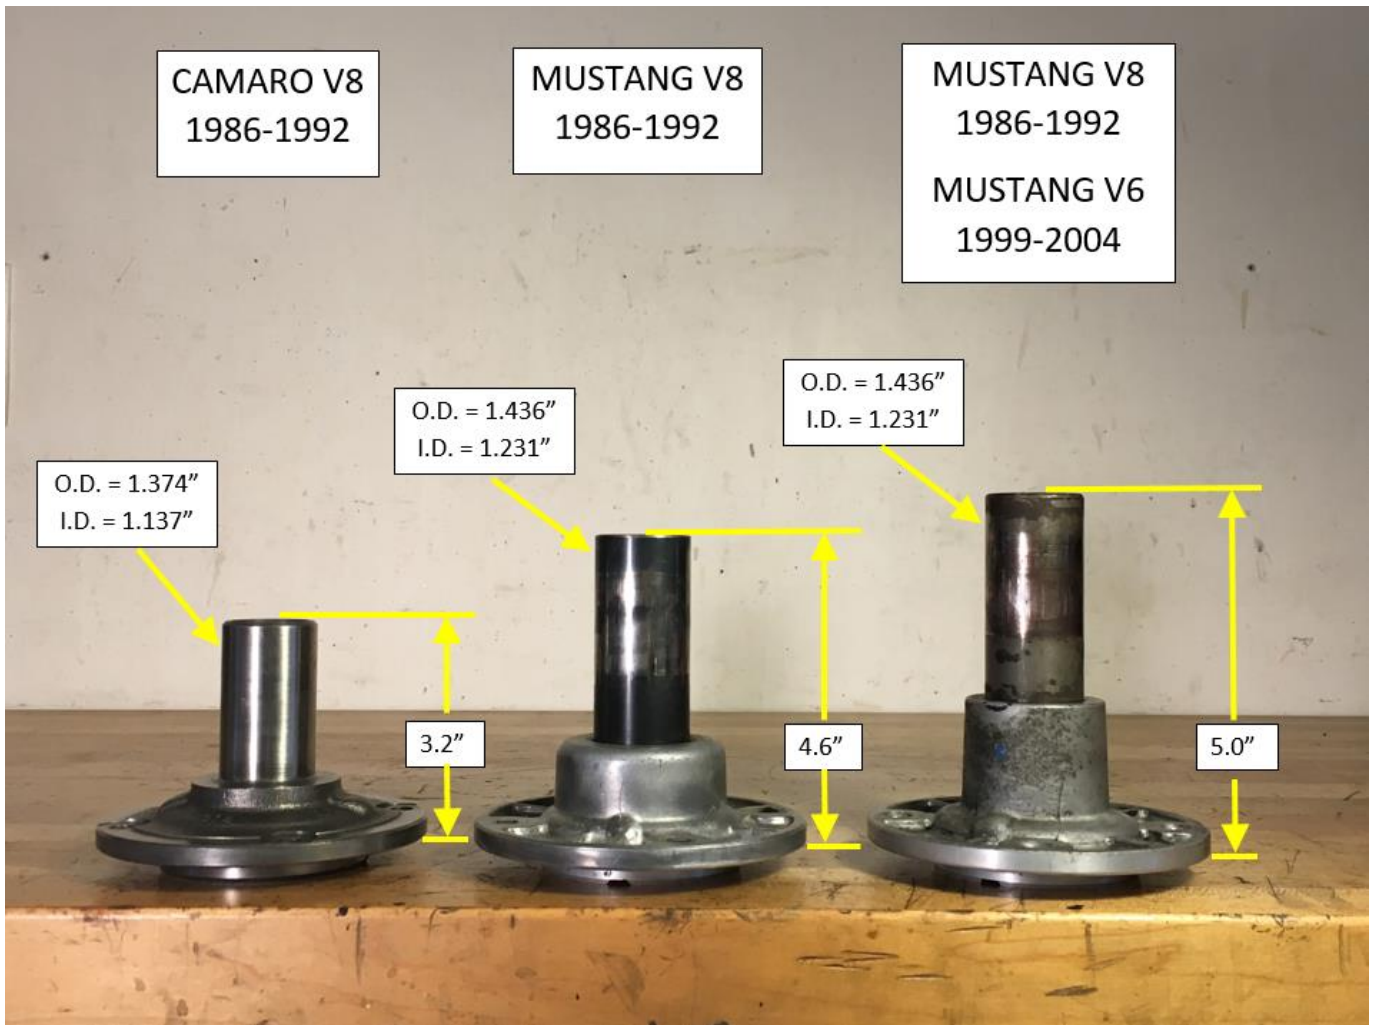

Fig. 9: Comparison of front bearing retainers
- In addition to the bearing retainers having different overall lengths, the lengths of the base of the retainer (where the throwout bearing nose enters the base) also differ. This can limit how far back the throwout bearing can travel when the clutch is released. When using an adapter plate with the shorter Mustang version (middle one in Figure 9), the thickness of the adapter plate may solve this problem. The longer Mustang version (right-hand one in Fig. 9) probably can't be used with a GM bellhousing unless the adapter plate is quite thick.
Again, all these differences can be accommodated with some advance planning. Figure 9 shows how the three front bearing retainers compare.